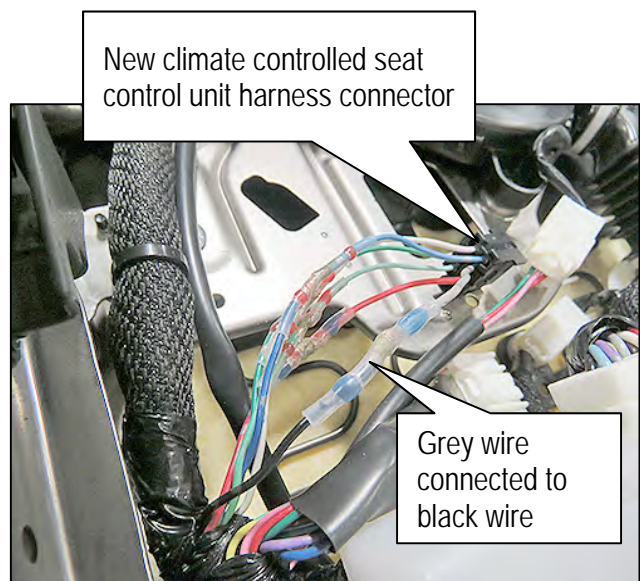

Figure 26
31. Perform steps 27-30 on the remaining five (5) wires and then proceed to step 32.
- Figure 26 is shown with all solder connections completed.